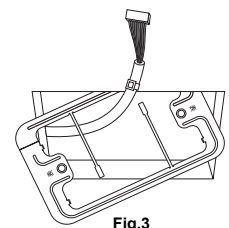

Fig.3
2. Pass the wire through the provided mounting bracket and insert the bracket into the installation hole. (Fig. 3)